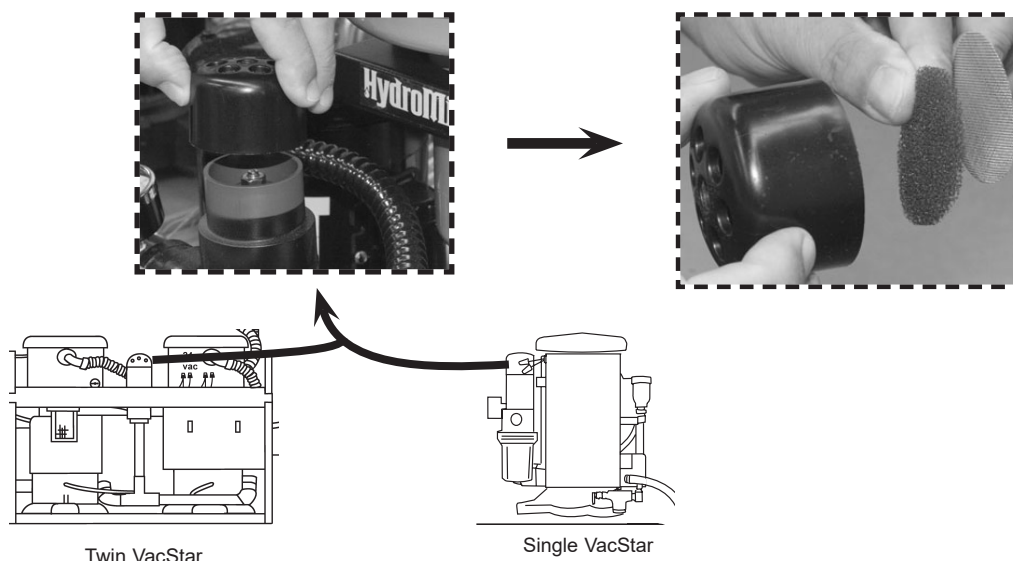

Figure 11. Vacuum Relief Valve Filter Location
6. Refer to Figure 11 and check the vacuum relief valve filter, clean if necessary.